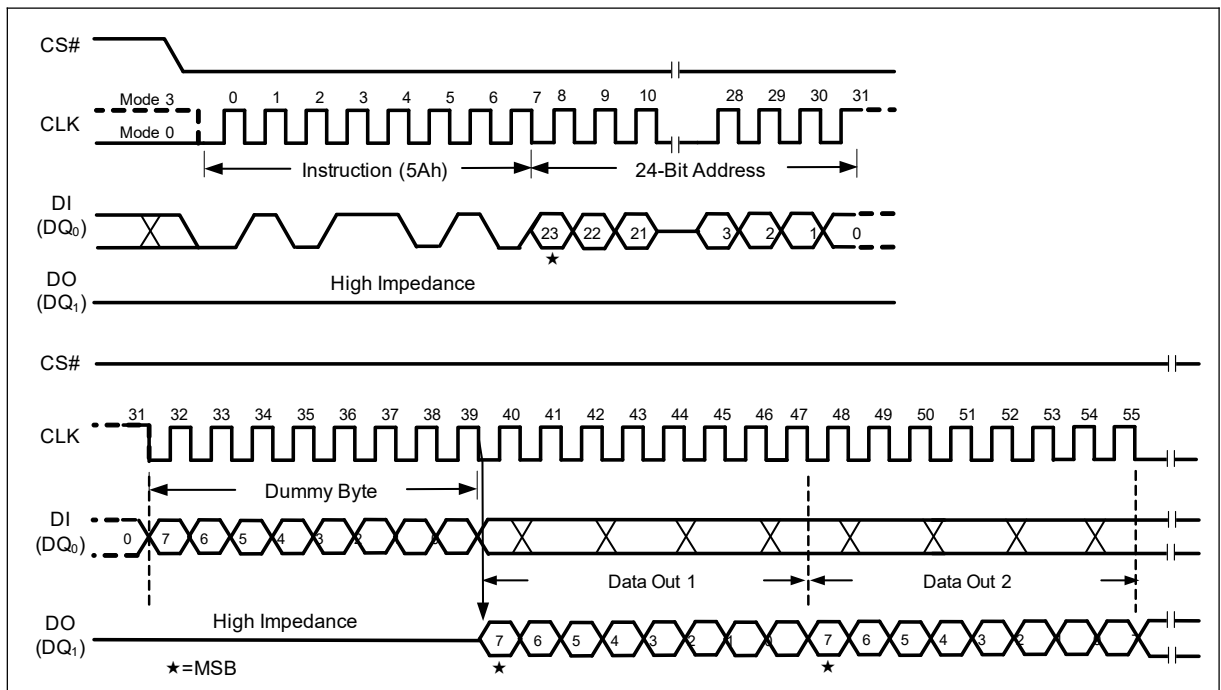

Figure 57 Read SFDP Register Instruction
The Read SFDP instruction is initiated by driving the /CS pin low and shifting the instruction code “5Ah” followed by a 24-bit address ( $A_{23-A_0}$ )(1) into the DI pin. Eight “dummy” clocks are also required before the SFDP register contents are shifted out on the falling edge of the 40th CLK with most significant bit (MSB) first as shown in Figure 57.